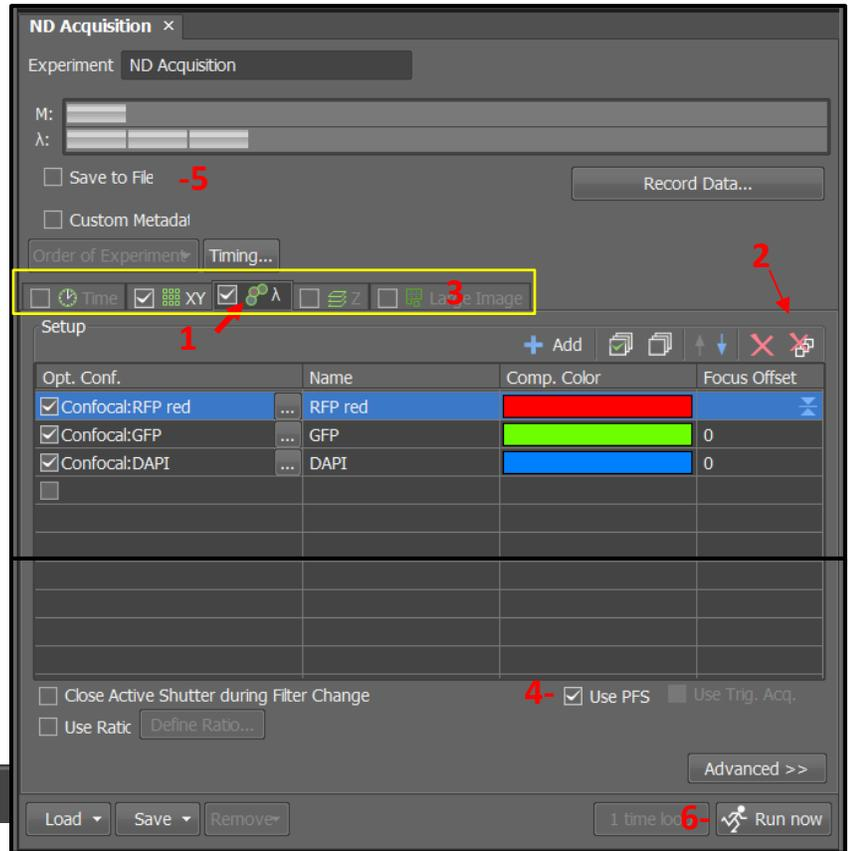
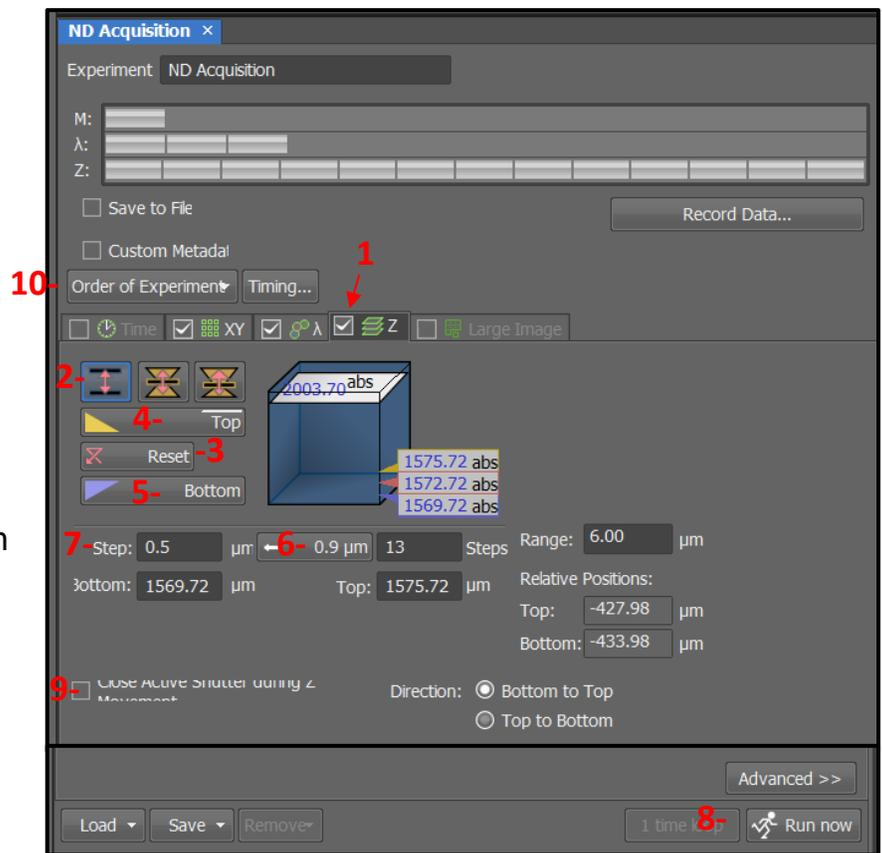

Figure 12: Multichannel Acquisition
Figure 13: Z-Stack Acquisition-Top and Bottom
- The order of the ND Acquisition panels affects the order of operations, proceeding right to left. Drag the panels to set the order, or select "order of operations" (Fig 13-10) to adjust it. The channel order operates top to bottom as listed in the multichannel setup (Fig 12).
- In the examples shown (Fig 12 &13): Z on right takes precedence over λ (Fig 13). Proceeding top to bottom in the multichannel (Fig 12), all the RFP layers are collected first, then all the GFP layers, then the DAPI layers. This order takes less time. It is good for fixed samples, but not good for active samples as the channel locations could shift.